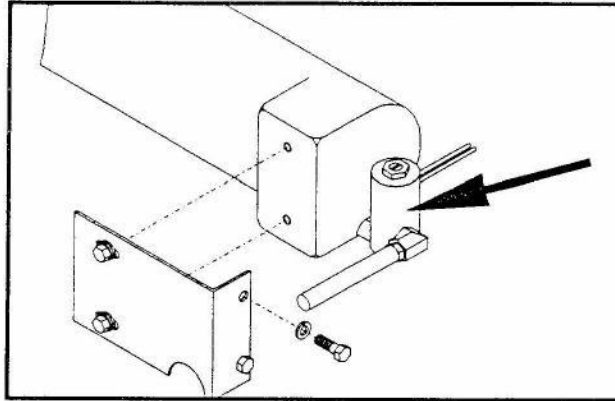

Figure 14
2. When the clean or cleaner pad light is on, two electrical solenoid valves are open and cleaner is flowing through these valves. The electrical solenoid valves are either open or closed. these valves do not control the volume of cleaner. See Figure 14.